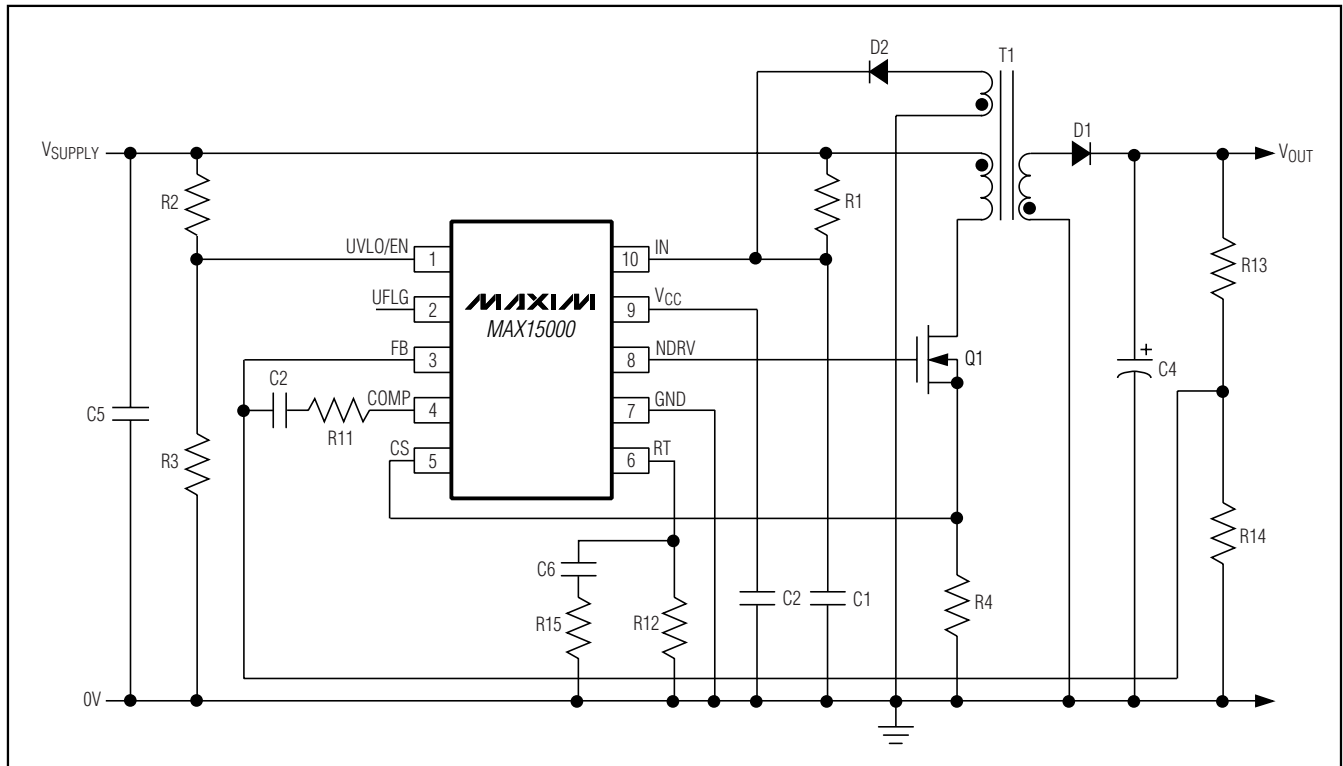
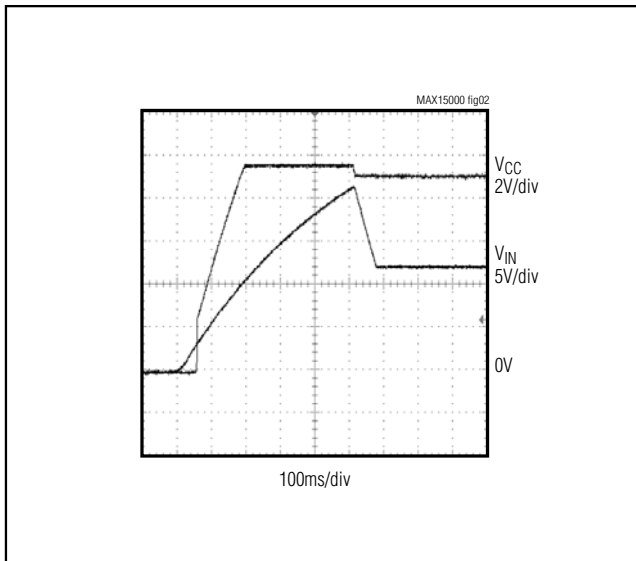

Figure 1. Nonisolated Power Supply with Programmable Input-Supply Start Voltage
Figure 2. V_{IN} and V_{CC} During Startup When Using the MAX15000 in Bootstrapped Mode (Figure 1)
- Note 2:** The MAX15000 is intended for use in universal input power supplies. The internal clamp circuit at IN is used to prevent the bootstrap capacitor (C1 in Figure 1) from charging to a voltage beyond the absolute maximum rating of the device when UVLO/EN is low (shutdown mode). Externally limit the maximum current to IN (hence to clamp) to 2mA maximum when UVLO/EN is low. Clamp currents higher than 2mA may result in a clamp voltage higher than 30V, thus exceeding the absolute maximum rating for IN. For the MAX15001, do not exceed the 24V maximum operating voltage of the device.
Characteristics table). The input is clamped when the devices are started with a bleed resistor (R1 in Figure 1) from a high input voltage and the UVLO/EN input is low. The clamp can safely sink up to 2mA current.
Power supplies designed with the MAX15000 use a high-value startup resistor R1 that charges a reservoir capacitor C1 (see Figure 1). During this initial period, while the voltage is less than the internal bootstrap UVLO threshold, the device typically consumes only 50µA of quiescent current. This low startup current and the large bootstrap UVLO hysteresis help to minimize the power dissipation across R1 even at the high end of the universal AC input voltage (265VAC).
Use this UVLO/EN input to program the input-supply start voltage. For example, a reasonable start voltage for a 36V to 72V telecom range is usually 34V. Calculate the resistor-divider values, R2 and R3 (see Figure 1) by using the following formulas:
For the MAX15000, the voltage at IN is normally derived from a tertiary winding of the transformer. However, at startup there is no energy being delivered through the transformer, hence, a special bootstrap sequence is required. Figure 2 shows the voltages at IN and V_{CC} during startup. Initially, both V_{IN} and V_{CC} are 0V. After the line voltage is applied, C1 charges through the startup resistor, R1, to an intermediate voltage. At this point, the internal regulator begins charging C2 (see Figure 1). Only 50 μ A of the current supplied through R1 is used by the MAX15000, the remaining input current charges C1 and C2. The charging of C2 stops when the V_{CC} voltage reaches approximately 9.5V, while the voltage across C1 continues rising until it reaches the wake-up level of 21.6V. Once V_{IN} exceeds the bootstrap UVLO threshold, NDRV begins switching the MOSFET and transfers energy to the secondary and tertiary outputs. If the voltage on the tertiary output builds to higher than 9.74V (the bootstrap UVLO lower
The MAX15000A/MAX15001A and MAX15000B/MAX15001B have programmable output switching frequencies from 25kHz to 625kHz and 12.5kHz to 625kHz, respectively. Use the following formulas to determine the appropriate value of the resistor R_{12} (see Figure 1) needed to generate the desired output switching frequency (f_{sw}) at the NDRV output:
where R_{12} is the resistor connected from R_T to GND (see Figure 1).
Connect an RC network in parallel with R_{12} as shown in Figure 1. The RC network should consist of a 100nF capacitor C_6 (for stability) in series with resistor R_{15} which serves to further minimize jitter. Use the following formula to determine the value of R_{15} :
The MAX15000/MAX15001 include an internal error amplifier to regulate the output voltage in the case of a nonisolated power supply (see Figure 1). For the circuit in Figure 1, calculate the output voltage using the following equation:
The current-sense resistor (R4 in Figure 1), connected between the source of the MOSFET and ground, sets the current limit. The current-limit comparator has a voltage trip level (V_{CS}) of 1V. Use the following equation to calculate the value of R4:
The bypass capacitor at IN, C1, supplies current immediately after the MAX15000 wakes up (see Figure 1). The size of C1 and the connection configuration of the tertiary winding determine the number of cycles available for startup. Large values of C1 increase the start-up time but also supply gate charge for more cycles during initial startup. If the value of C1 is too small, V_{IN} drops below 9.74V because NDRV does not have enough time to switch and build up sufficient voltage across the tertiary output which powers the device. The device goes back into UVLO and does not start. Use a low-leakage capacitor for C1 and C2.
The above startup method is applicable to a circuit similar to the one shown in Figure 1. In this circuit, the tertiary winding has the same phase as the output windings. Thus, the voltage on the tertiary winding at any given time is proportional to the output voltage and goes through the same soft-start period as the output voltage. The minimum discharge time of C1 from 21.6V to 9.74V must be greater than the soft-start time of 5.6ms.